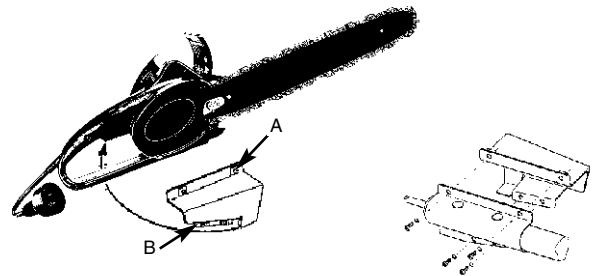

Fig.7
2. Slip handle bracket (A) over chain saw handle from the right side (See Fig. 7).